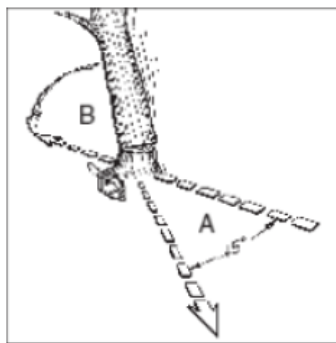

Fig 10a
Warning: before starting the cutting, a clear escape route (A) must be prepared. The escape route should extend backward and diagonally, opposite to the falling direction, as shown in Fig. 10a.
WARNING: When the felling cut nears the hinge, the tree should start to fall. When the tree begins to fall, remove the chainsaw from the cut, stop the engine, place the chainsaw down, and leave the area via the escape path (Fig. 10a).